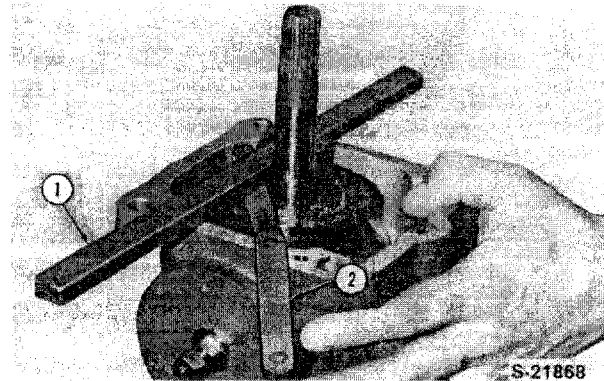

Figure 69
Reference — Figure 69
- Using a straight edge and feeler gauge, measure the depth of the cylinder block surface below the housing end. The clearance should be approximately 0.078 in. (2.0 mm), Figure 69.